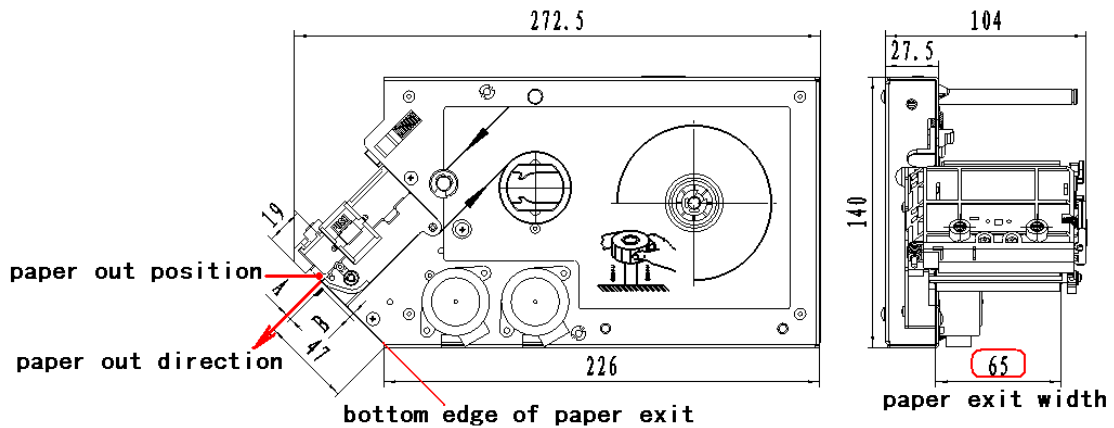

Figure 4.2.5 Outlet position
- Outlet position and width are shown in Figure 4.2.5. To ensure paper feed smooth, the outlet of printer casing shall be aligned with the printer outlet and reserve suitable space to avoid paper impacting the outlet edge of the casing. Due paper is somewhat curl, dimension A should be set reasonable to avoid paper impacting outlet down edge; in addition, space B between outlet down edge and printer case should assure the load of paper.